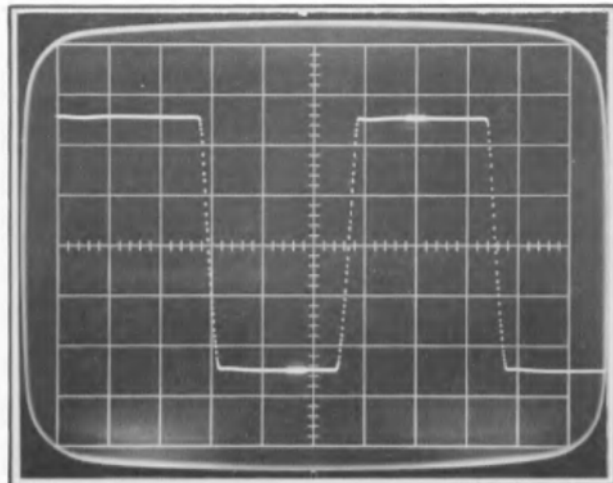

Fig. 7-11. Typical display for checking Vertical accuracy, $10 \mu\text{s}$ square wave at $2 \mu\text{s/div}$.
b. Connect the cable between the Type 284 and the sampling head input. Set the sampling sweep unit for a sweep rate of 0.5 μ s/div (500 ns; Decade at 7, Multiplier at 5.) Set the Type 284 to deliver 10 μ s square waves at 1.0 volt. Obtain a display similar to Fig. 7-11, normally triggered (not double triggered).